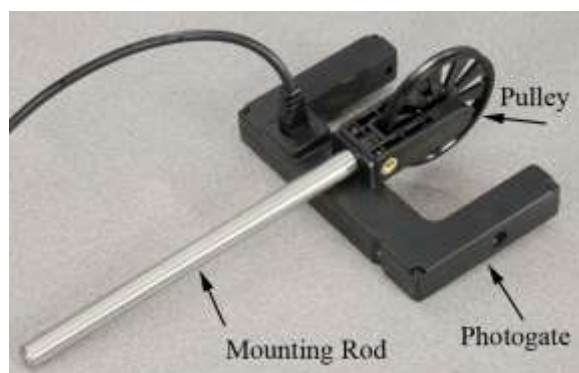

Figure 2: Pulley and Photogate
2. Attach the pulley to the photogate using the mounting rod as shown in Figure 2. The pulley may need to be first removed from its own clamp.